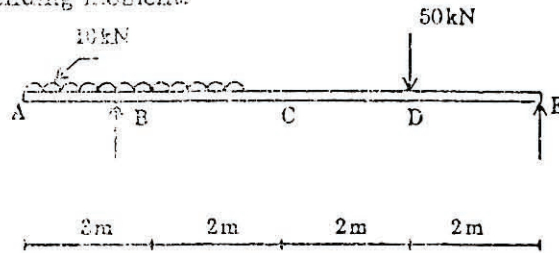

Fig.2
- IV. (a) Draw SFD and BMD for the beam shown in figure 2. Indicate the position and the magnitude of maximum bending moment.